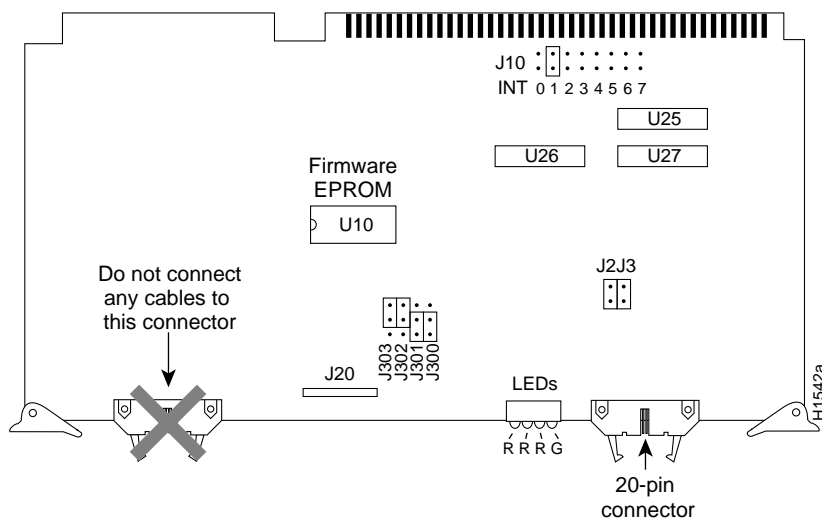

Figure 1 CSC-ENVM Environmental Monitor Card—Component Side View
- Step 6** Check for proper jumper settings on the new CSC-ENVM card. The jumpers are set at the factory for correct operation. (See Figure 1.)
Step 8 Attach the CSC-ENVM control cable to connector J20. This control cable must attach to the four pins on the right side (orientation is with the card front edge facing you) of J20 (see Figure 1). The opposite end of the control cable is attached to the power supply and should be already connected.
Caution To prevent network damage, do not connect any cables to the connector located on the left front edge of the CSC-ENVM card. (See Figure 1.)
- Step 6** Referring to Figure 1 on page 10, locate the EPROM (socket position U10) on the CSC-ENVM card.
- Step 7** Use the chip extractor tool or small flat-blade screwdriver to carefully remove the old EPROM from its socket. Note the position of the notch (see Figure 1) in the EPROM and socket; use this notch to position the new EPROM. Do not rely upon the orientation of the label on the new EPROM for proper insertion.
- Step 9** When the new EPROM has been installed, check for proper jumper settings. The factory default settings shown in Figure 1 should match the settings on your card. There are no user-configurable jumpers on the CSC-ENVM card.
- Step 11** Attach the CSC-ENVM control cable to connector J20. This control cable must attach to the four pins on the right side (orientation is with card front edge facing you) of J20. (See Figure 1.) The opposite end of the control cable is attached to the power supply and should be already connected.
Caution To prevent network damage, do not connect any cables to the connector located on the left-front edge of the CSC-ENVM card. (See Figure 1.)
Step 2 Check the four LEDs located near the control connector (see Figure 1) on the front edge of the CSC-ENVM. Only the green LED should be on. If any other LED or combination of LEDs is on, turn OFF the system and check the CSC-ENVM card and cables for proper installation. Refer to Table 2 for the function of the LEDs. Contact your service representative if LEDs fail to come on properly.